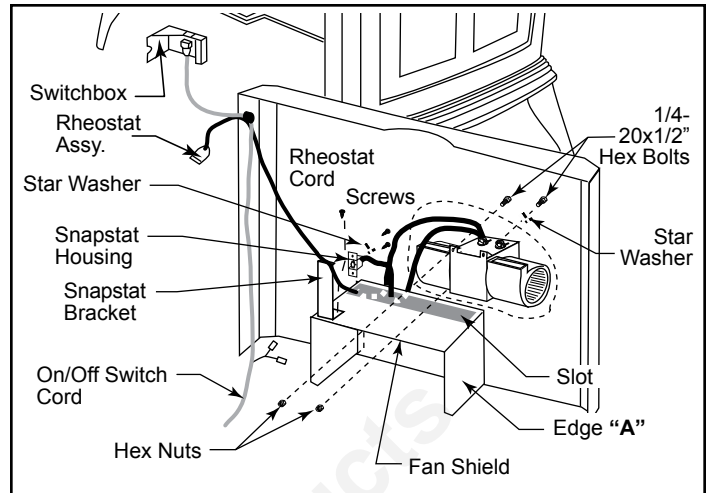

Figure 15 - Attach fan, snapstat assembly and snapstat bracket to rear skirt.
2. Position the fan assembly. Place the fan behind the rear skirt as shown in Figure 15. Pass the fan rheostat assembly and snapstat assembly up through the slot in the horizontal top surface of the fan shield attached to the inside of the skirt.
3. Attach the snapstat housing to the snapstat bracket with two (2) sheet metal screws and one (1) #8 star washer. (Figure 15)
4. Attach the snapstat bracket, with the snapstat assembly mounted to it, to the top surface of the fan shield with a sheet metal screw. There is a predrilled hole in the shield for this. The vertical part of the snapstat bracket should be about 3/16" back from edge "A" in Figure 15.
5. Attach the fan assembly to the rear skirt with two (2) 1/4 - 20 x 3/4" hex bolts, two (2) 1/4-20 nuts and one (1) 1/4" star washer. (Figure 15)